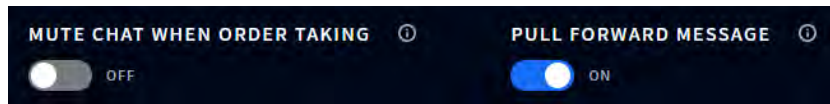

Fig. 1.15
**On/Off Toggles:** Tapping on an **OFF/ON** toggle turns it on (if its current status is off, or off if its current status is on). Fig. 1.15 shows two features, one in the OFF state, the other in the ON state).